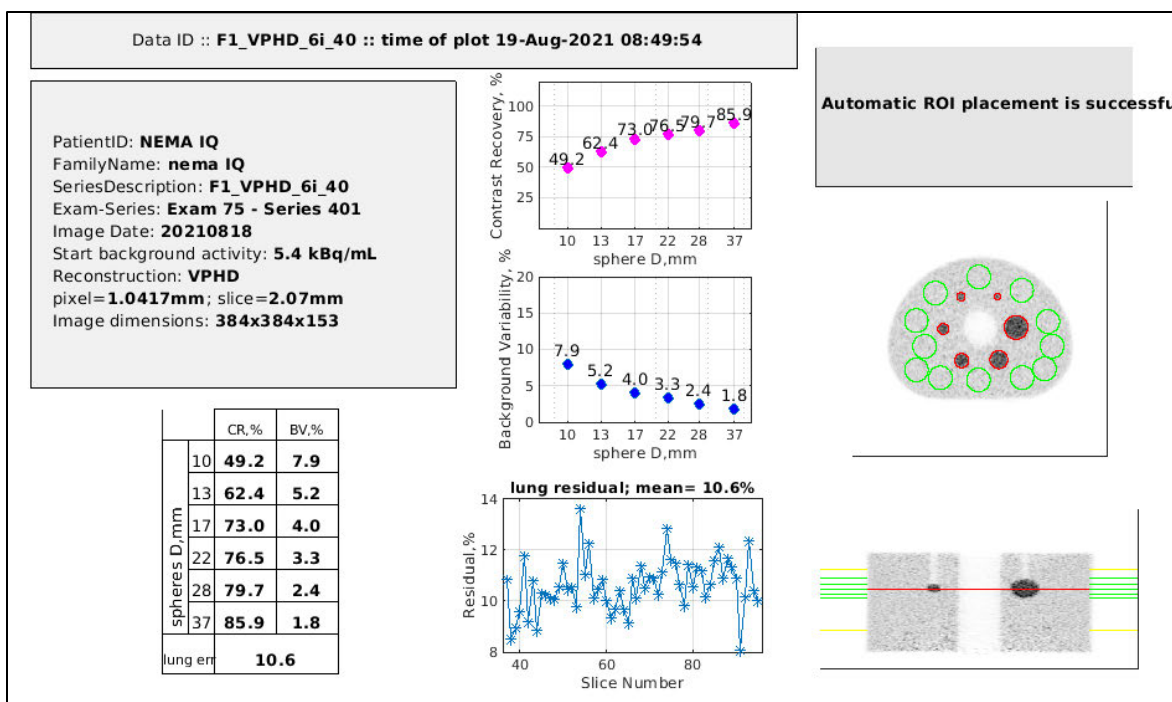

Figure 4.10: Example of an Image Quality Report Panel obtained in Omni Legend (32 cm axial FOV).
10. Refer to Figure 4.10. The REFRESH SELECTION button updates the data field display to the
- After several minutes, the system displays a screen similar to Figure 4.10. Actual display may vary depending on the type of scanner.